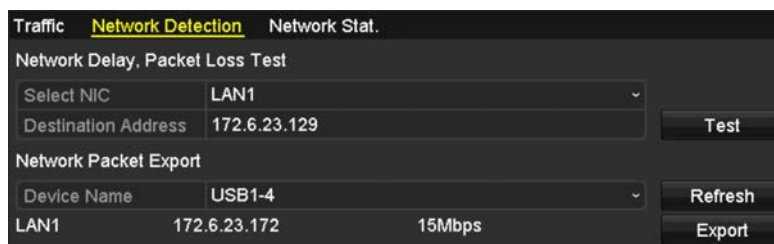

Figure 9-21 Network Detection Interface
2. Click the **Network Detection** tab to enter the Network Detection menu, as shown in Figure 9-21.